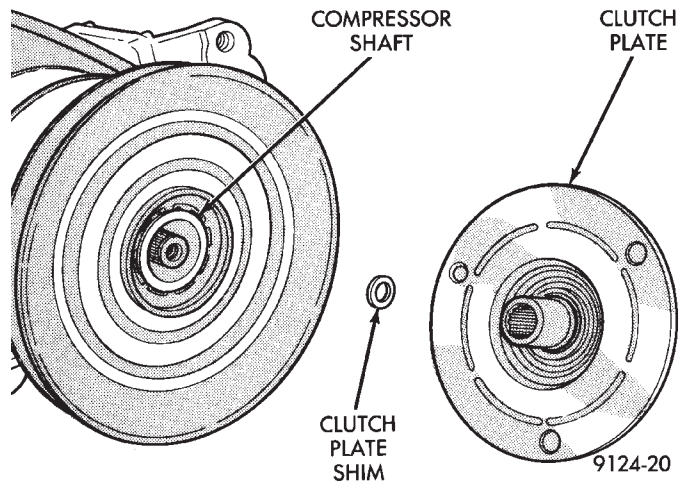

Fig. 31 Clutch Plate and Shim(s)
- (2) Tap the clutch plate with a plastic hammer and remove clutch plate and shim(s) (Fig. 31).